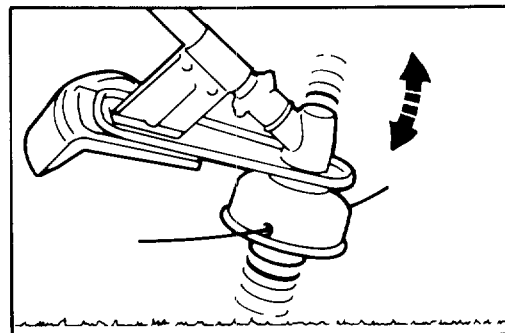

Figure 9
### LENGTHENING CUTTING LINE (Fig. 9)
1. To lengthen line, firmly tap spool on the ground with the engine running at half cutting RPM (Fig. 9). The line will be fed from the spool and cut off to the proper length by the cutting knife attached to the shield.